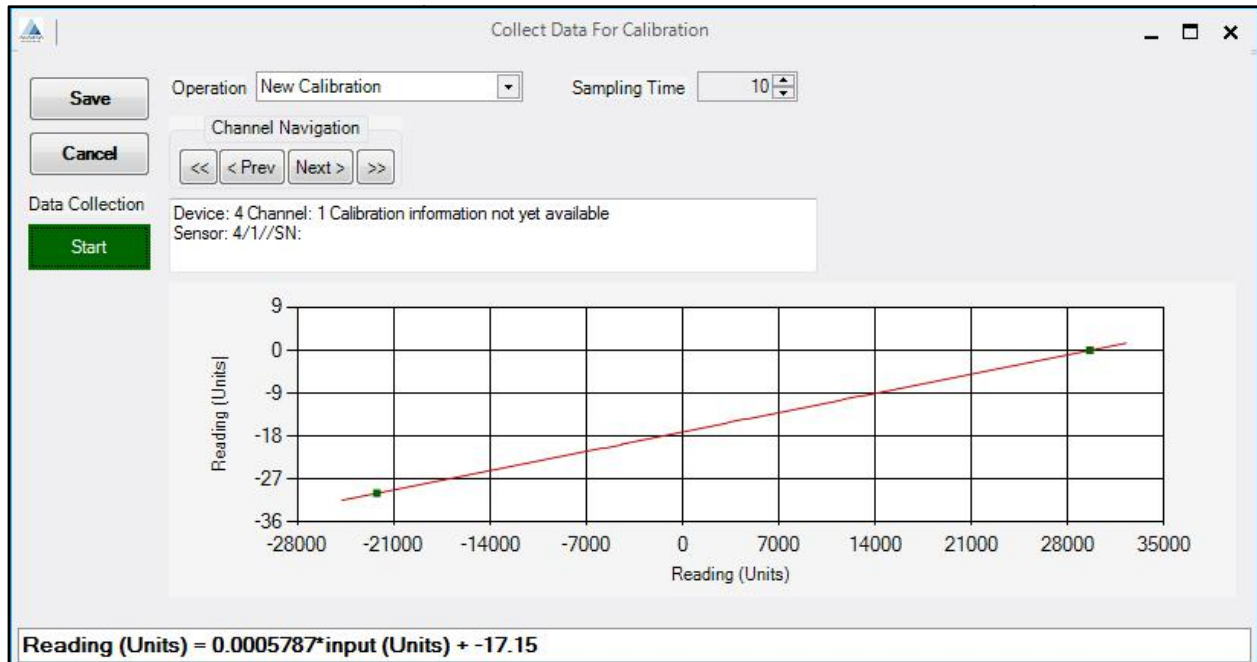

Figure 48: Calibration After Two(2) Data Points
- After 2 data points have been added to the calibration (see Figure 48).